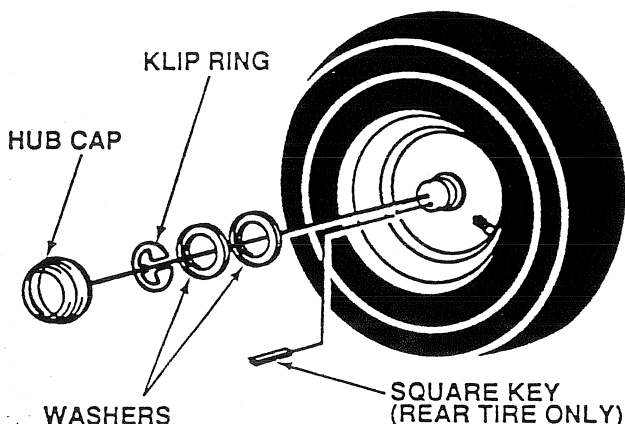

FIGURE 19
- d. Removing front wheel for tire repair (Fig. 19).
- e. Removing rear wheel for tire repair (Fig. 19).